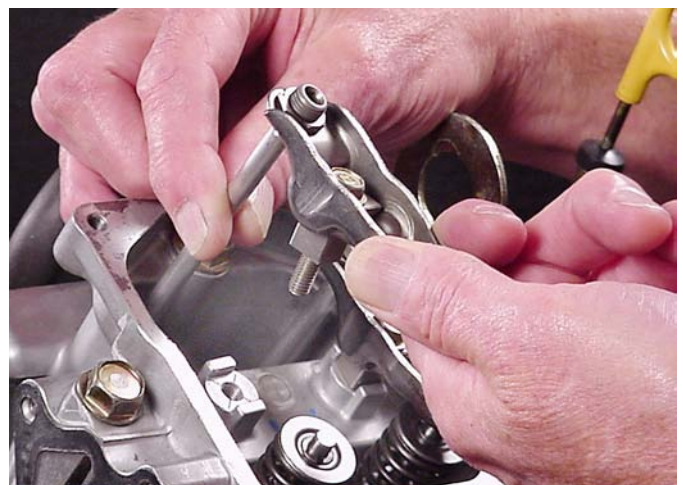

Fig. 153
2. Assemble rocker arm supports and rocker arms to cylinder head, Fig. 153. Torque screws to **100 in. lbs. (11.0 Nm)**.